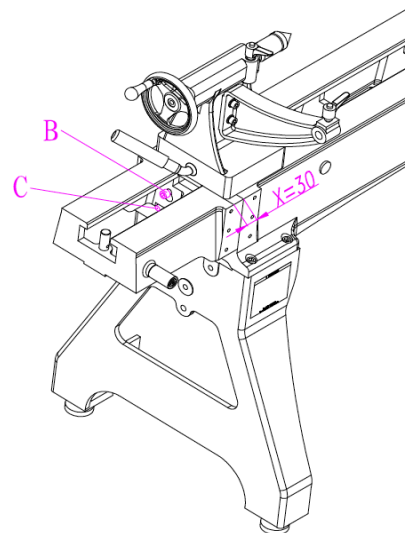

Fig. 10
- 3, Slide the tailstock back to the position as show in figure. $X=30\text{mm}$ or $1\text{-}1/2''$ (Fig. 10)